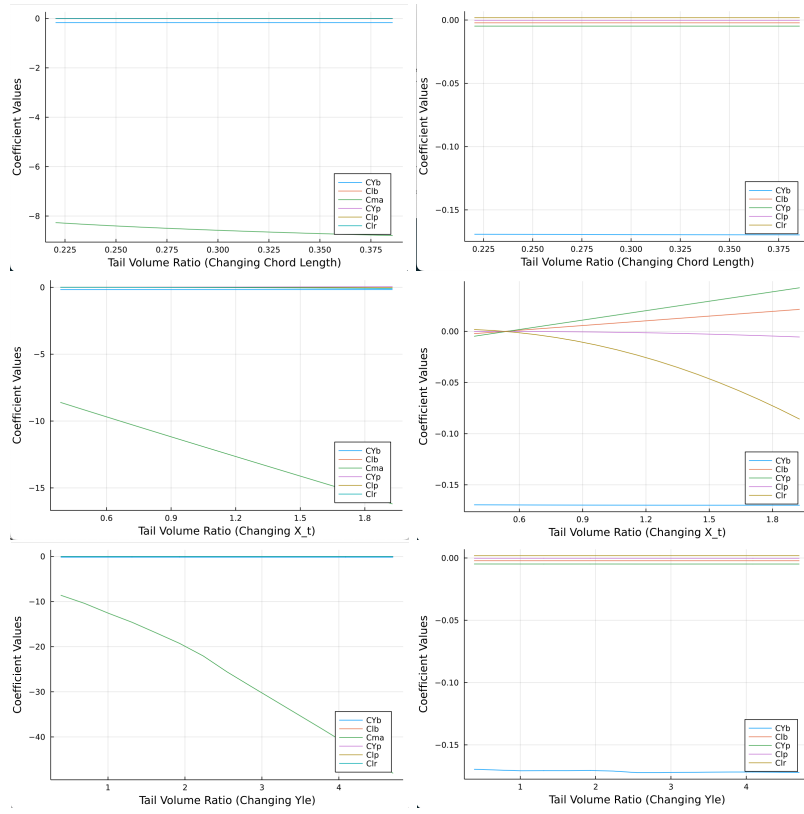

Figure 11: Smaller Magnitude Stability Derivatives
- Figure 11 shows a similar effect as tail volume ratio increases. The derivative C_{ma} refers to pitch stiffness, which is similar to what C_{mq} relates to. As tail volume ratio increases, the pitch stiffness derivative becomes more stable, which isn't a surprise since this is what the horizontal stabilizer is for.